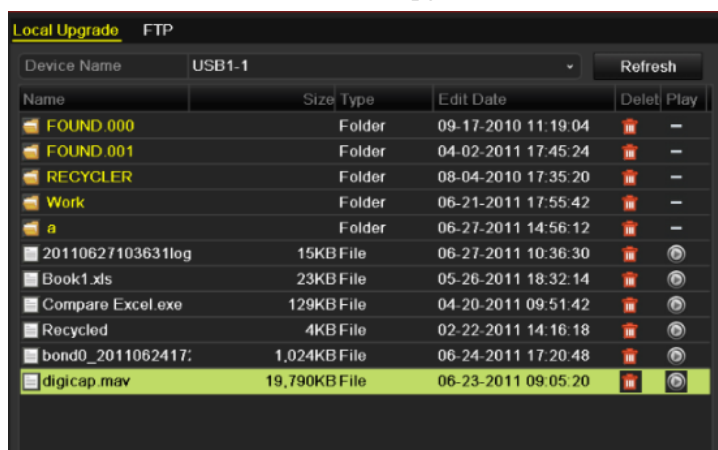

Figure 13. 13 Local Upgrade Interface
3. Click the **Local Upgrade** tab to enter the local upgrade menu, as shown in Figure 13. 13.